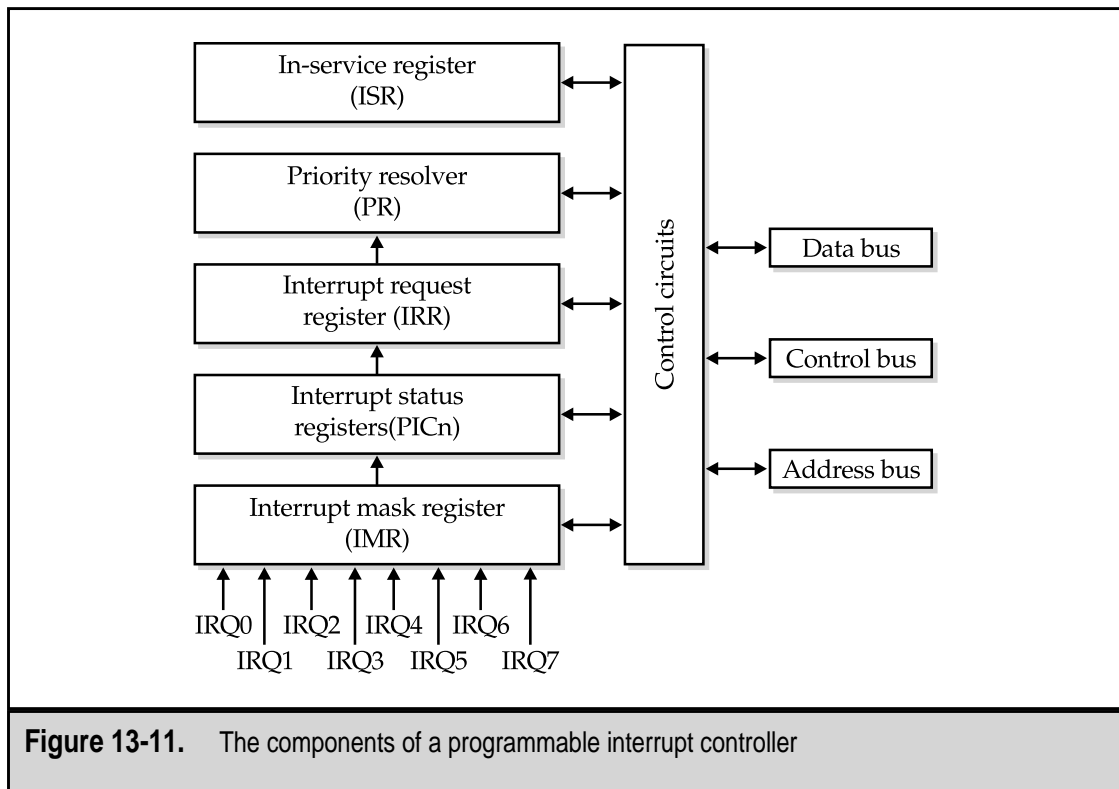

Figure 13-11. The components of a programmable interrupt controller
the circuits and logic required to control eight IRQ lines. Figure 13-11 illustrates the general design of a PIC. It is called a *programmable controller* because chipset, processor, and motherboard manufacturers can program the chip and address each of its registers to fit a particular purpose or function.
Figure 13-11 shows how the PIC works in general. The individual IRQ lines have one interrupt mask register (IMR) and two interrupt status registers, which are named PIC1 and PIC2. The IRQ enters the PIC through its IMR, which determines if the IRQ is masked (disabled) and if it is, the request is ignored. If the IRQ is not masked, the request is recorded in the interrupt request register (IRR). The IRR holds the IRQ requests until after they have been processed or acknowledged, depending on the service or action requested. The priority resolver (PR) acts as a sort of traffic cop to ensure that the highest priority request is handled first. IRQ priority is essentially the lowest number first. Once the IRQs are prepared for processing, the CPU is notified on its INT (interrupt) line that requests are pending and, as soon as it completes its current task, the CPU responds with an interrupt acknowledgment (INTA).